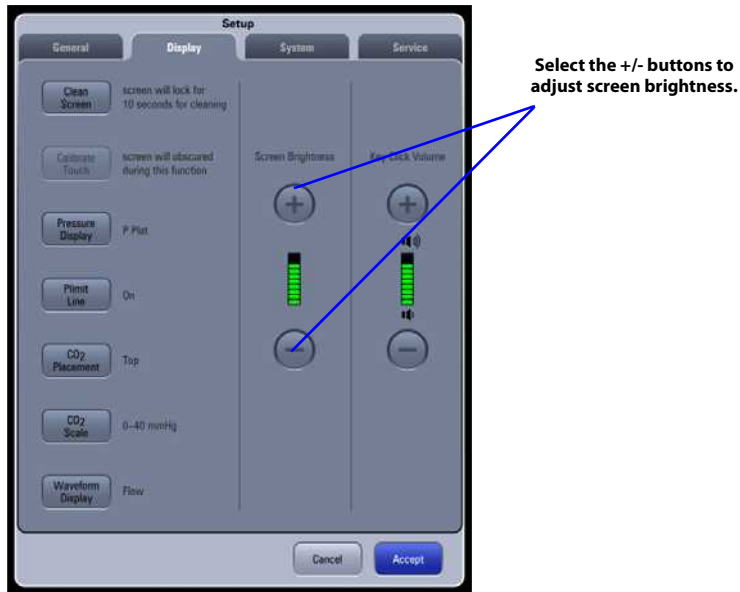

FIGURE 3-34 A5/A3 Display Tab: Screen Brightness Area
1. Select **Setup** softkey > **Display** tab (FIGURE 3-34).